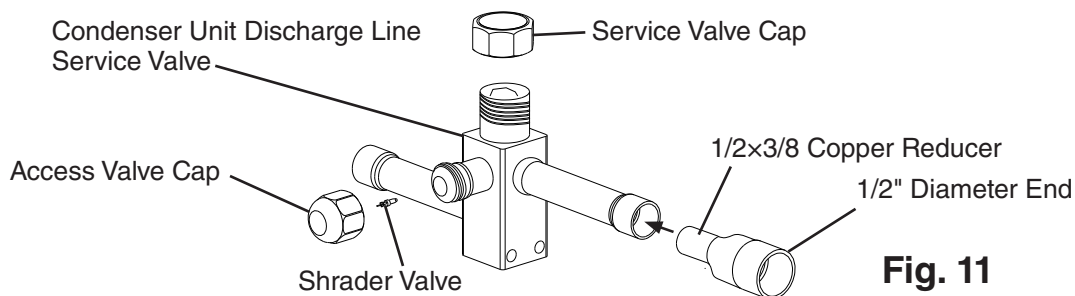

Fig. 11
- 5) Place the 3/8" end of a 1/2"×3/8" copper slip reducer (not provided) in the icemaker discharge line service valve, then place the discharge line copper tube into the 1/2" end of the 1/2"×3/8" copper slip reducer. See Fig. 11.
- 9) Place the 3/8" end of a 1/2"×3/8" copper slip reducer (not provided) in the condenser unit discharge line service valve, then place the discharge line copper tube into the 1/2" end of the 1/2"×3/8" copper slip reducer. See Fig. 11.